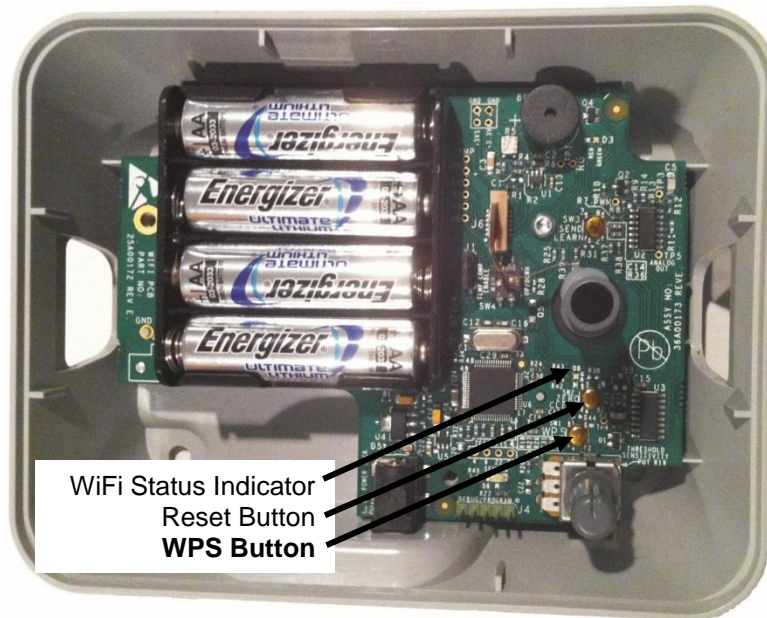

Figure 12: *WiFi* Status LED and WPS Button Locations
2. Reference Figure 12 to locate the **FILTERSCAN *WiFi* Air Filter Monitor** WPS button.
2. See Figure 12 to locate the **FILTERSCAN WiFi Air Filter Monitor** WPS button.